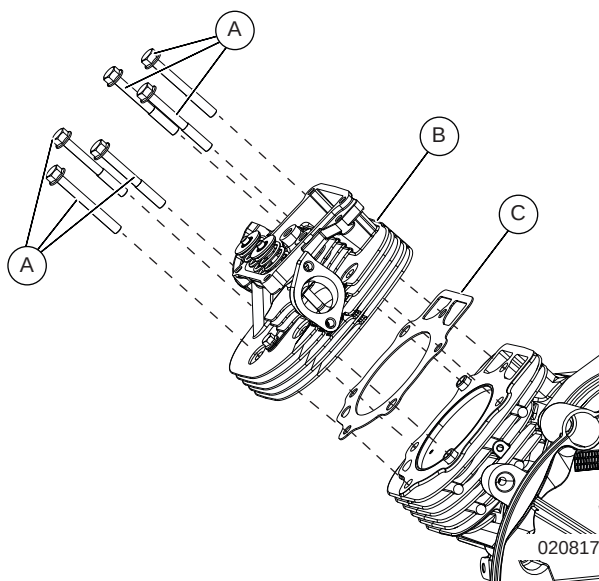

Figure 6-38. Remove Cylinder Head Assembly
1. See Figure 6-38. Remove the five cylinder head bolts (A), washers (B), cylinder head assembly (C), and gasket (D) from engine long block.